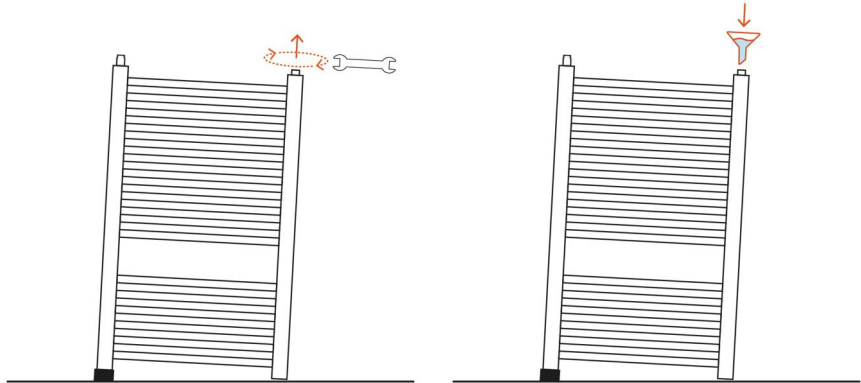
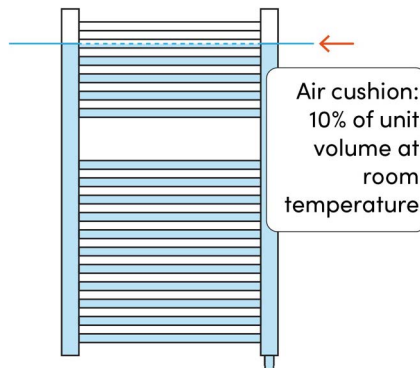

Figure 6 | Removing towel rail cap and using funnel to fill
Figure 7 | Air cushion - for illustrative purposes only
10. Remove the cap and fill the towel rail to 90% of its volume with a suitable heating medium (**Figure 6 & Figure 7**). This should be a glycol-based formulation approved by the towel rail manufacturer. Replace cap when done.